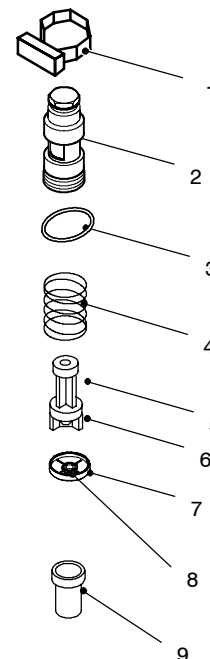

Fig. 3
13.2 Nomenclature and location of parts (Fig. 3)